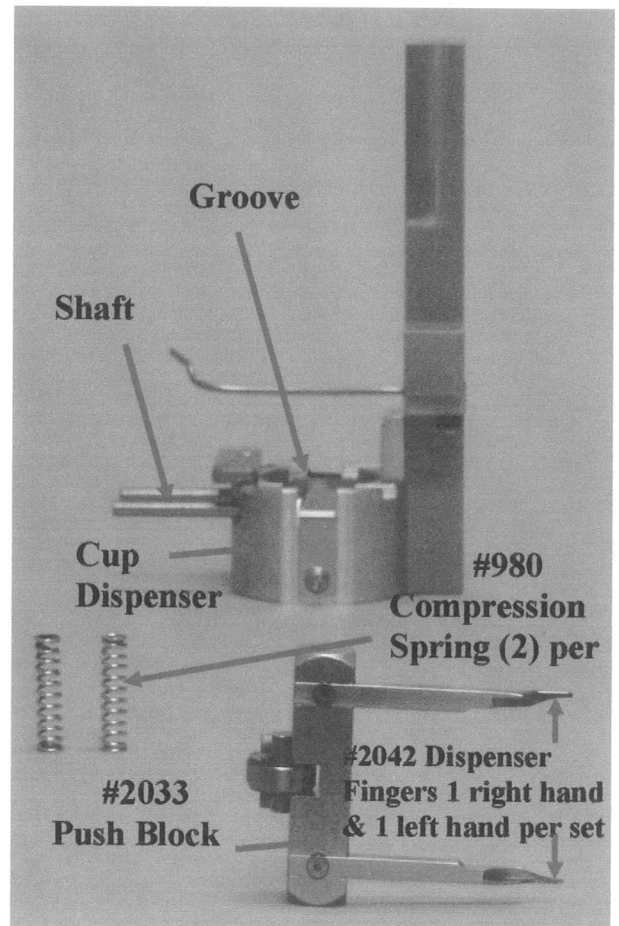

Fig. 7 - Cup Dispenser Exploded View
4. Slide Push Block out of cup Dispenser (see Fig. 7).
5. Slide Compression springs off shafts of cup dispenser (see Fig. 7).